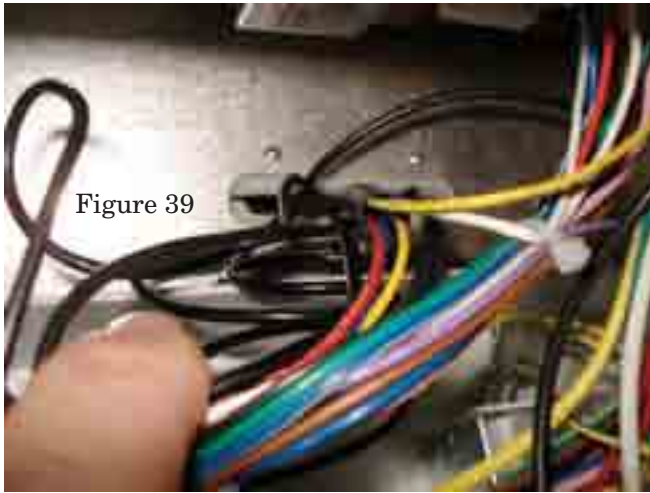

Figure 39
8. Remove the cable ties to isolate and remove the capillary tube of the existing auto-reset water temperature limit switch. See Figure 39.